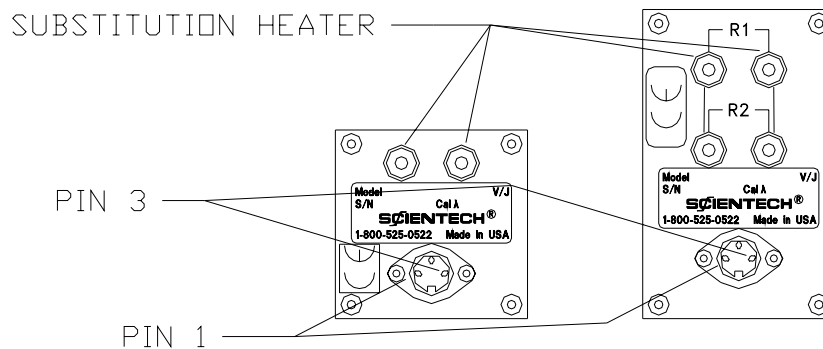

Figure 6
- Connect a DVM to the white jacks of the calorimeter. Refer to Figure 6.
For this procedure you will need to make an adapter cable to go from the calorimeter's DIN connector to the DVM. The voltage output is on pin 1 of the DIN connector and should be connected to the positive side of the DVM. Ground is on pin 3 and should be connected to the negative side. Pin 2 is not used. Refer to Figure 6.
When large aperture calorimeters are used without an indicator their interface module is not used. The output of the calorimeter is connected directly to the DVM or chart recorder. Large aperture calorimeters do not require any power. The voltage output is on pin 1 of the DIN connector and should be connected to the positive side of the DVM or chart recorder. Ground is on pin 3 and should be connected to the negative side. Pin 2 is not used. Refer to Figure 6.